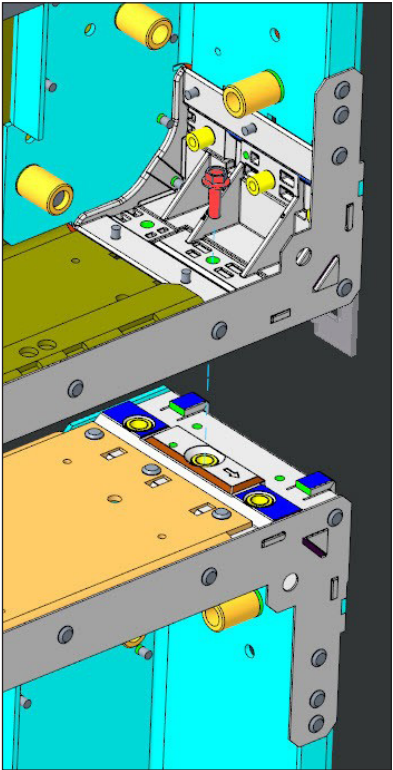

Figure 18: Install Bolt through Corner Block
- Install the M6 bolts (#HC-3464941) supplied with the interconnect hardware vertically through all of the corner blocks from one cabinet and into the adjacent cabinet's corresponding corner block's nutsert. **Install one bolt in the center hole of each corner block.** Refer to **Figure 18**. Finger-tighten the bolts.